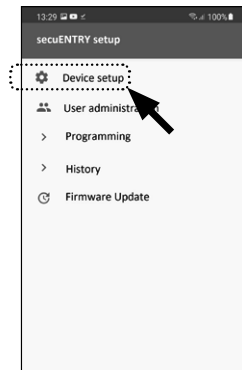

Fig. 17
③ In the following menu, tap on "Device Setup" (Fig. 17). From here you can add and setup secuENTRY units to the app.